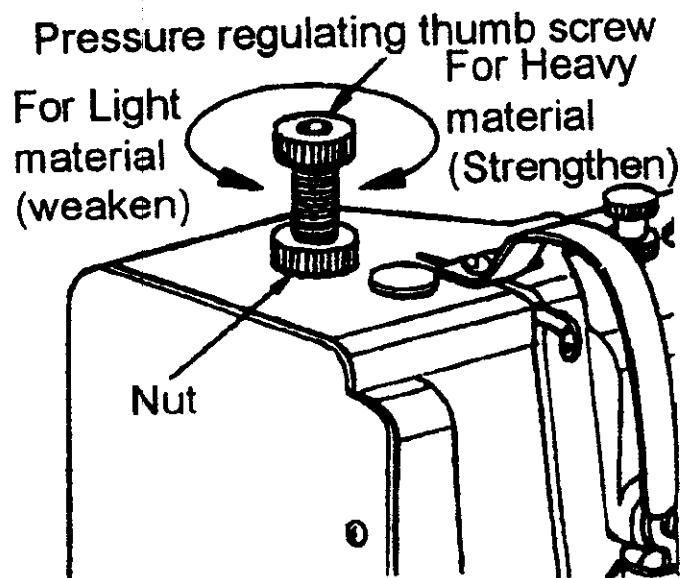

Fig. 5
10、Adjust the Pressure of Presser Foot (Fig.5):